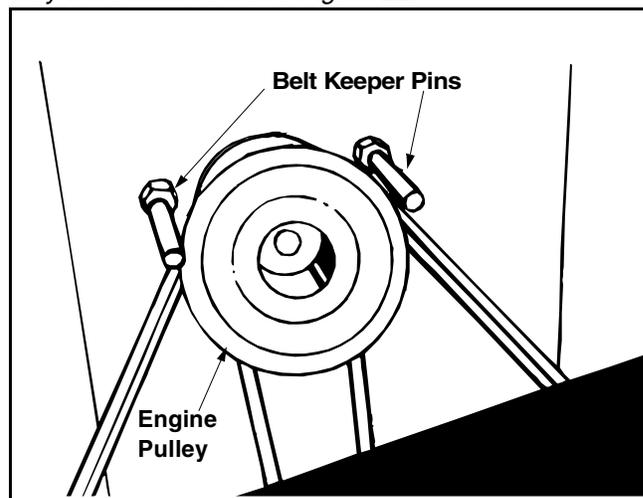
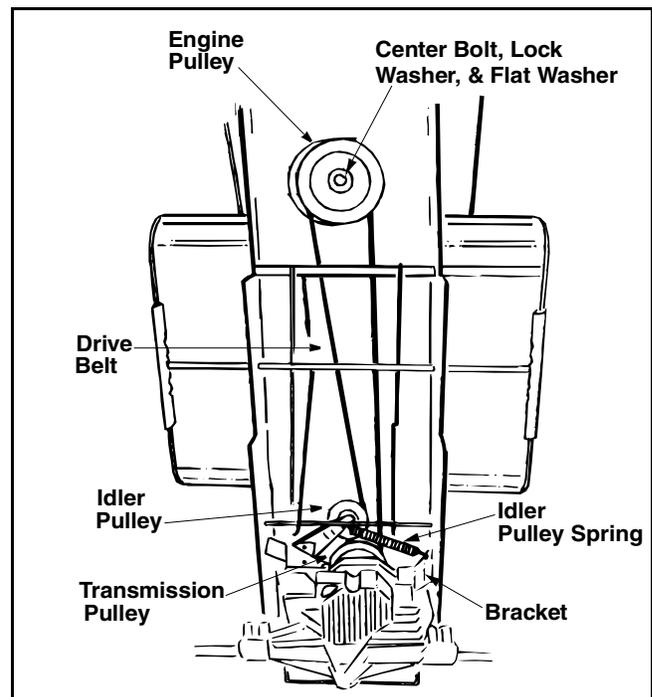

Figure 22
Figure 25
NOTE: Figure 22 and Figure 25 are shown with the unit tipped up for clarity. It is not necessary to tip the unit to remove the belts. However, for convenience, if you decide to tip it, remove the battery from the unit first.
NOTE: When reassembling, make certain belt keeper pins are assembled in the same locations from which they were removed. See Figure 22.
- Remove the belt keeper pins from the lower frame. Refer to Figure 22.
- Disconnect the idler pulley spring which is attached to a bracket on the frame, inside the left rear wheel. Use a spring puller or other suitable tool. See Figure 25.
- Remove the center bolt, lock washer and flat washer, and let the engine pulley drop down so the belt is past the belt guards. See Figure 25.